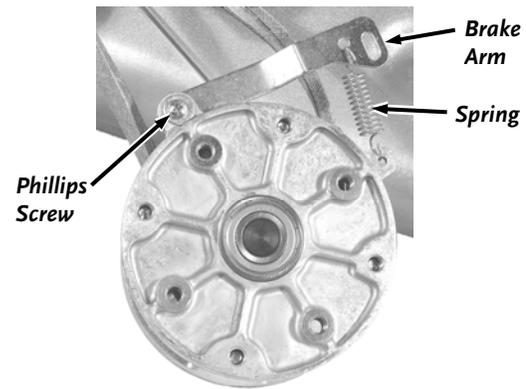

Figure 38
6. Turn the Bearing Assembly over to expose the Brake Arm Assembly and unhook the Tension Spring from the Brake Arm (**Figure 38**).